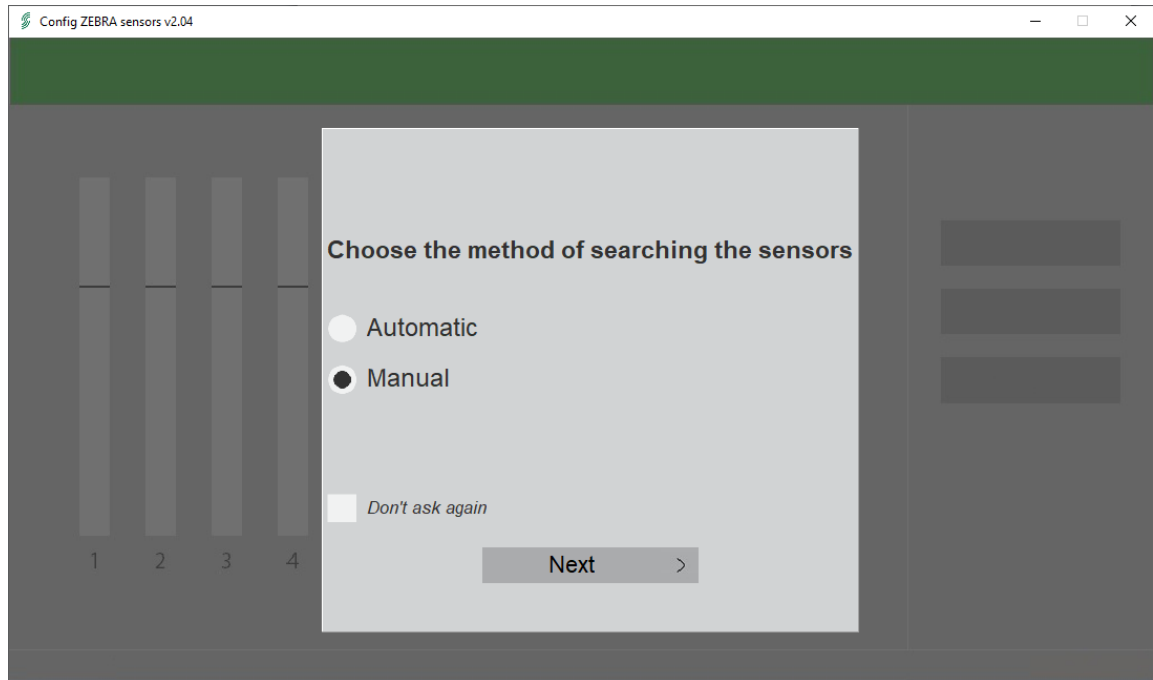

Figure 2.16
- 2.3.7.2.1 Start the program "Config ZEBRA Series" from the desktop. After the program has been started, it will appear the window of the search type shown in Figure 2.16.
The “Search” button is used to find occupied/free logical numbers, if the manual search was chosen (Figure 2.16). If the automatic search was chosen, the occupied/free logical numbers are determined automatically.